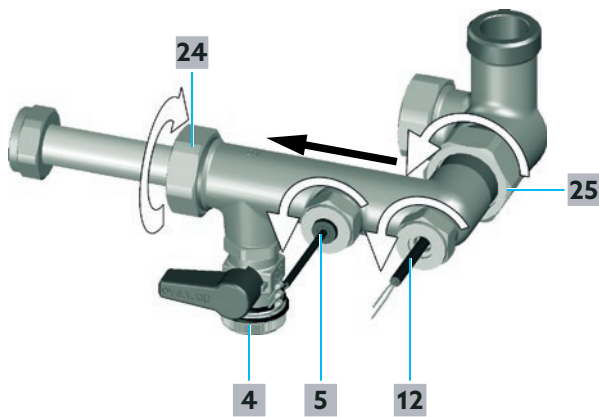

Fig. 34: Cleaning of the measuring turbine
- 7** Loosen the union nut of the volume flow sensor for potable water circuit VTY 20 (position **5** in Fig. 34 on page 53) with a 24 mm spanner.
- 8** Loosen the union nut of the temperature sensor for potable water (cold)/circulation S3 (position **12** in Fig. 34 on page 53).
- 9** Carefully pull the volume flow sensor for potable water circuit VTY 20 (position **5** in Fig. 34 on page 53) and the temperature sensor for potable water (cold)/circulation S3 (position **12** in Fig. 34 on page 53) out of the fitting.
- 11** Loosen the union nut cold potable water supply (position **25** in Fig. 34 on page 53) with a 38 mm spanner.
- 12** Loosen the union nut heat exchanger side (position **24** in Fig. 34 on page 53) with a 37 mm spanner.
25 in Fig. 34 on page 53). A water hose with an appropriate spray nozzle is particularly suitable for this purpose.
- Install the volume flow sensor for potable water circuit VTY 20 (position 5 in Fig. 34 on page 53) and the temperature sensor for potable water (cold)/circulation S3 (position 12 in Fig. 34 on page 53).